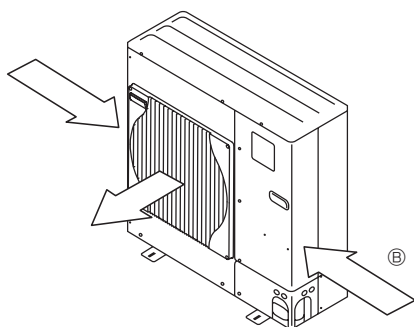

Fig. 3-5
- ③ Position the unit so that the air outlet blows perpendicularly to the seasonal wind direction, if possible. (Fig. 3-5)
(2) When installing a single outdoor unit (Refer to the next page)